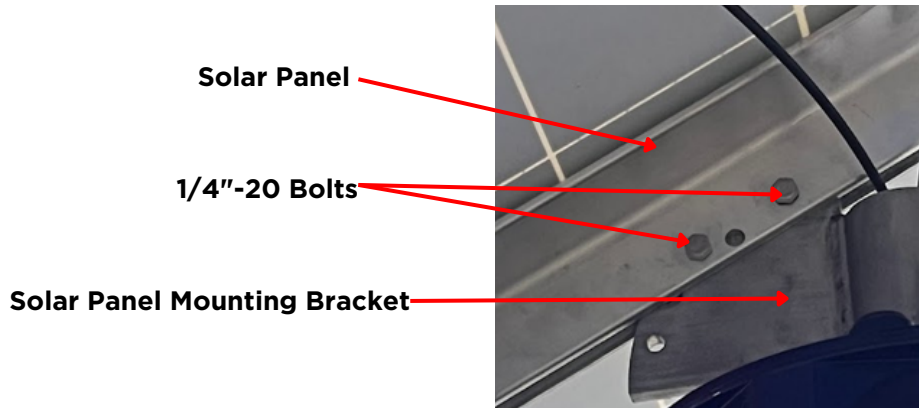

Figure 5
- **Connect solar panel to mounting bracket** - Attach the mounting bracket to the solar panel as shown in Figure 5, using the supplied 1/4"-20 bolts & nylock nuts.